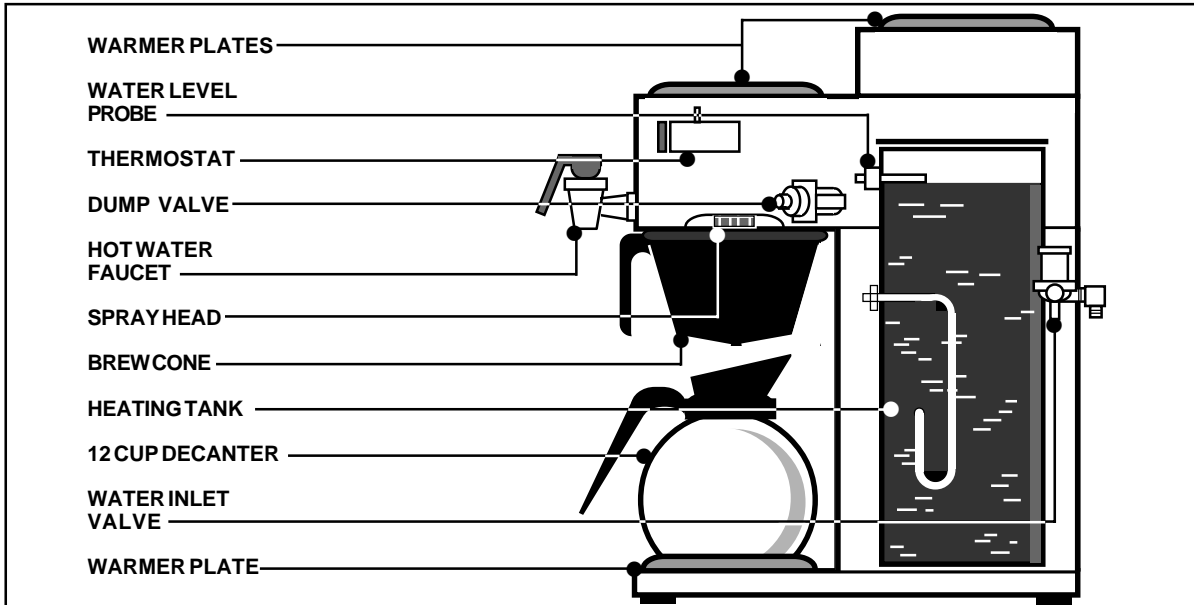

Figure 1. Alpha Brewing System, Basic Components.
3. Locate the thermostat (see figure 1). Twist the thermostat stem clockwise as far as it will go.